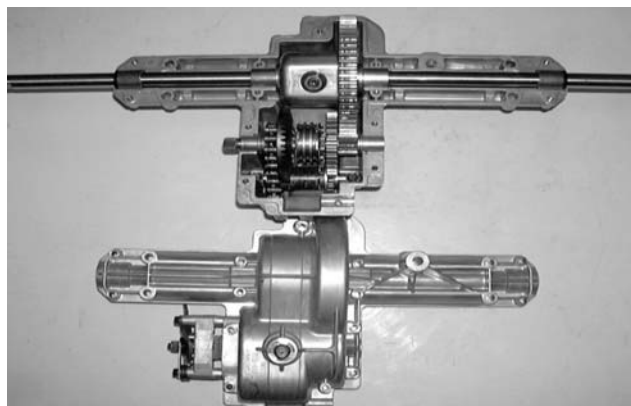

Figure 9-38
- Place the upper transmission housing over the lower housing and secure them together with the self tapping screws removed earlier, using a 3/8 socket. See Figure 9-38.